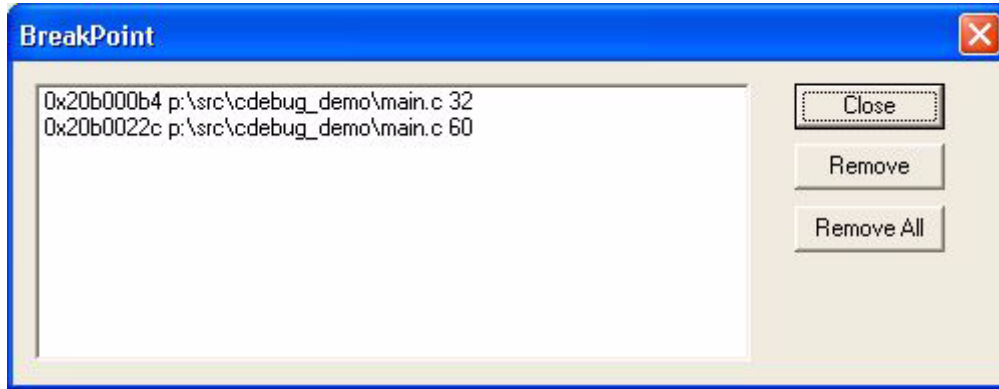

Figure 4-53. BreakPoint Dialog Box Listing Break Points
- 7 Selecting the View > Break Point command displays the Breakpoint dialog box that displays the memory address location of each break point, the source code path and file name, and the source code line number (Figure 4-53). This dialog box allows you to view all break points and delete any undesired ones.